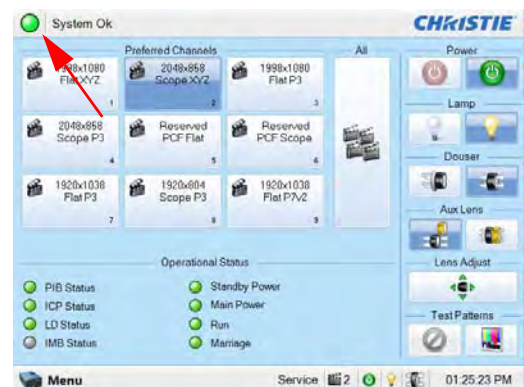

Figure 4-3 TPC LED
- Check for interlock failures. From the **Main** panel on the TPC, click the LED in the top, left corner to open the **Status** window. (Figure 4-3). Alternatively, click the **Menu** button and select **Status**. With the **Status** window open, click **Interlocks**. If a failure is shown, interlock needs to be cleared before the lamp will light.